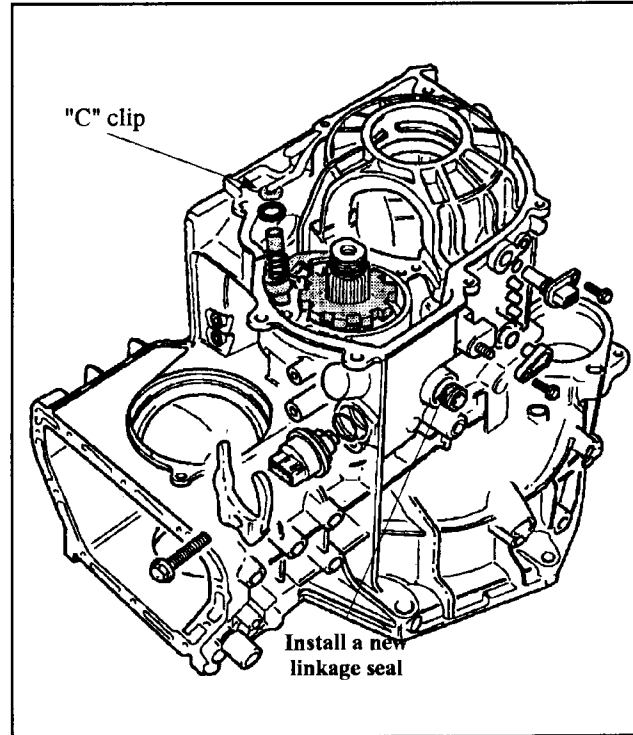

Figure 110
2. Gently lift up on the detent spring high enough to allow the manual lever shaft rooster comb slide underneath then release the detent spring (See Figure 110).
3. Place the manual selector shaft in the park detent position and install the retaining roll pins through the detent actuator and the park rod lever (See Figure 110).